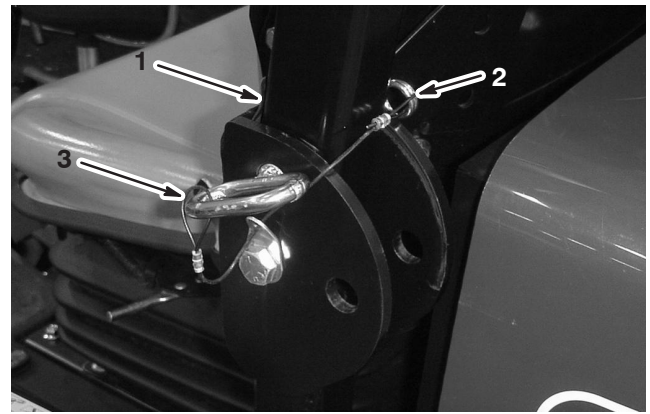

Figure 24
1. To lower the roll bar, remove the hairpin cotter pins and remove the two pins (Fig. 24).
3. Install the two pins and secure them with the hairpin cotter pins (Fig. 24).
4. To raise the roll bar, remove the hairpin cotter pins and remove the two pins (Fig. 24).
5. Raise the roll bar to the upright position and install the two pins and secure them with the hairpin cotter pins (Fig. 24).